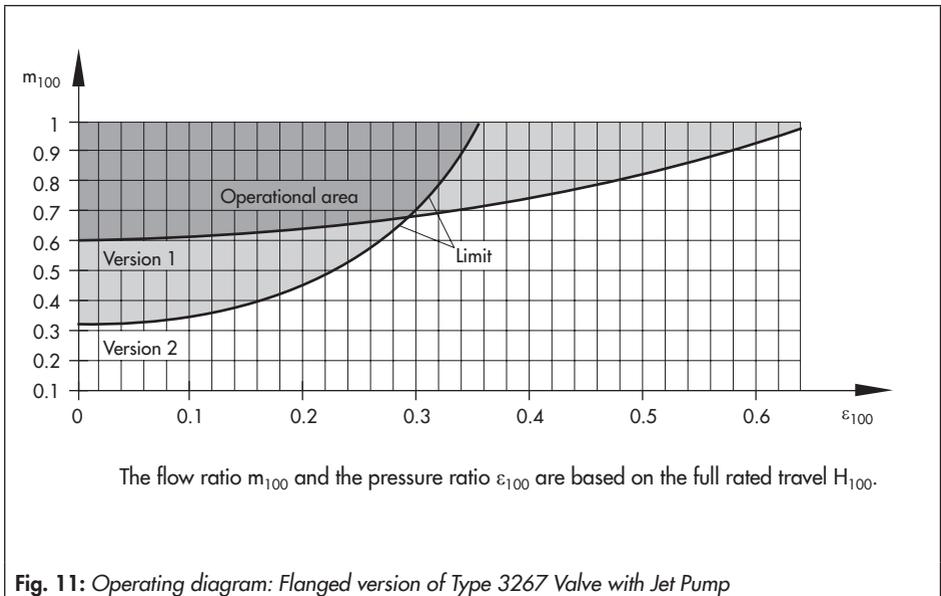

Fig. 11: Operating diagram: Flanged version of Type 3267 Valve with Jet Pump
3. Enter the flow rate ratio m_{100} and pressure ratio ε_{100} on the operating diagram (Fig. 11). The point of intersection (operating point) must be within the gray-